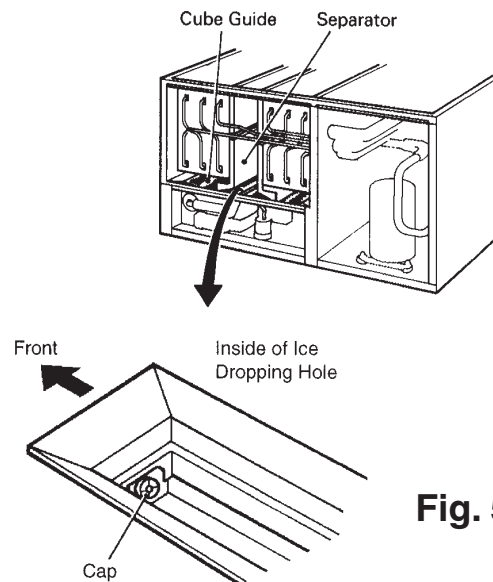

Fig. 5
- 3) Remove the insulation panel. Remove the cap located on the front bottom part of the ice dropping hole. Drain the water tank. See Fig. 5.